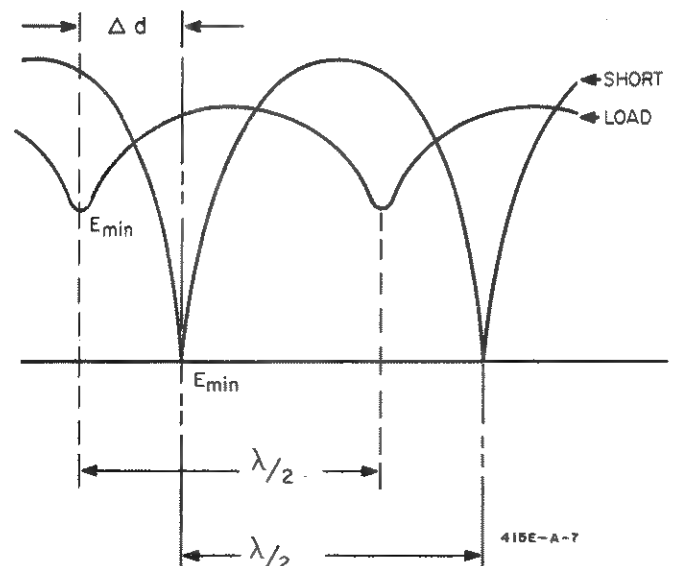

Figure 3-9. Shift of Minimum with Load and Short
d. Referring to Figure 3-9 and the following formulas, compute the normalized load impedance: